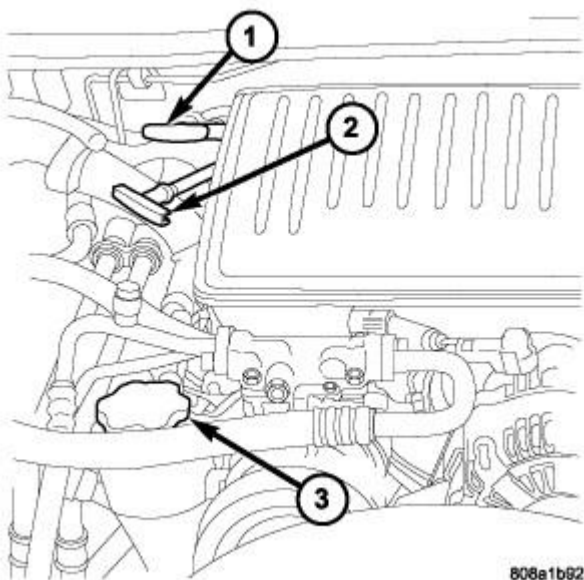

Fig. 125: Transmission And Engine Oil Dipsticks & Engine Oil Fill Cap
The engine oil level indicator (1) is located at the right rear of the engine on the 3.7L/4.7L engines. Refer to **Fig. 125**.